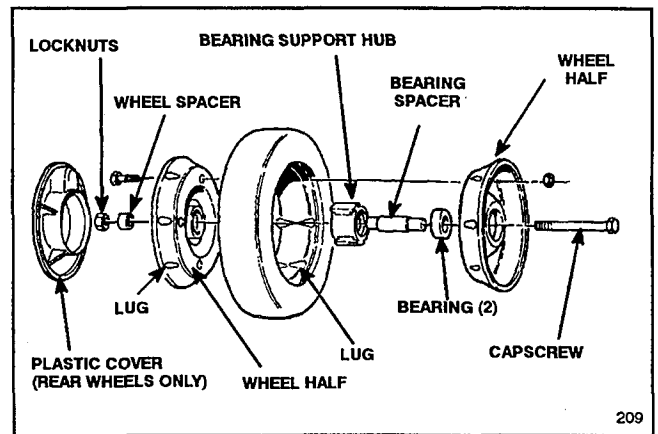

Figure 30
## SERVICING WHEELS (Fig. 30)
1. Remove capscrew, wheel spacer, and locknut mounting wheel to pivot arm (Fig. 30).
2. Separate wheel halves from tire by removing (4) capscrews and locknuts (Fig. 30).
1. Position tire onto (1) wheel half, aligning lugs on each (Fig. 30).
4. Using (2) 1/4-20 x 1.50" lg. fully threaded screws or bolts and non-locking nuts, loosely secure wheel halves together. Mount screws or bolts in opposing holes.
6. Install (2) capscrews and locknuts, previously removed, in remaining holes in wheel halves and tighten. Remove (2) long screws or bolts and replace them with (2) flange capscrews and locknuts.